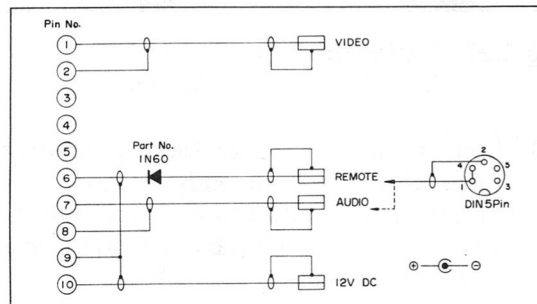

Fig 3.29 Camera Cable Part No. 3V07B Wiring Diagram
- (2) Part No. 3V07B, supplied with the AC Adaptor, being a cable 3m (10ft) in length and equipped with a 10-pin socket at one end, for connection to cable Part No. 01X0-016-214 in place of the portable VTR, and four plugs at the other end for connection to an AC Adaptor and to a non-portable VTR as appropriate. The cable wiring diagram is provided by Figure 3.29